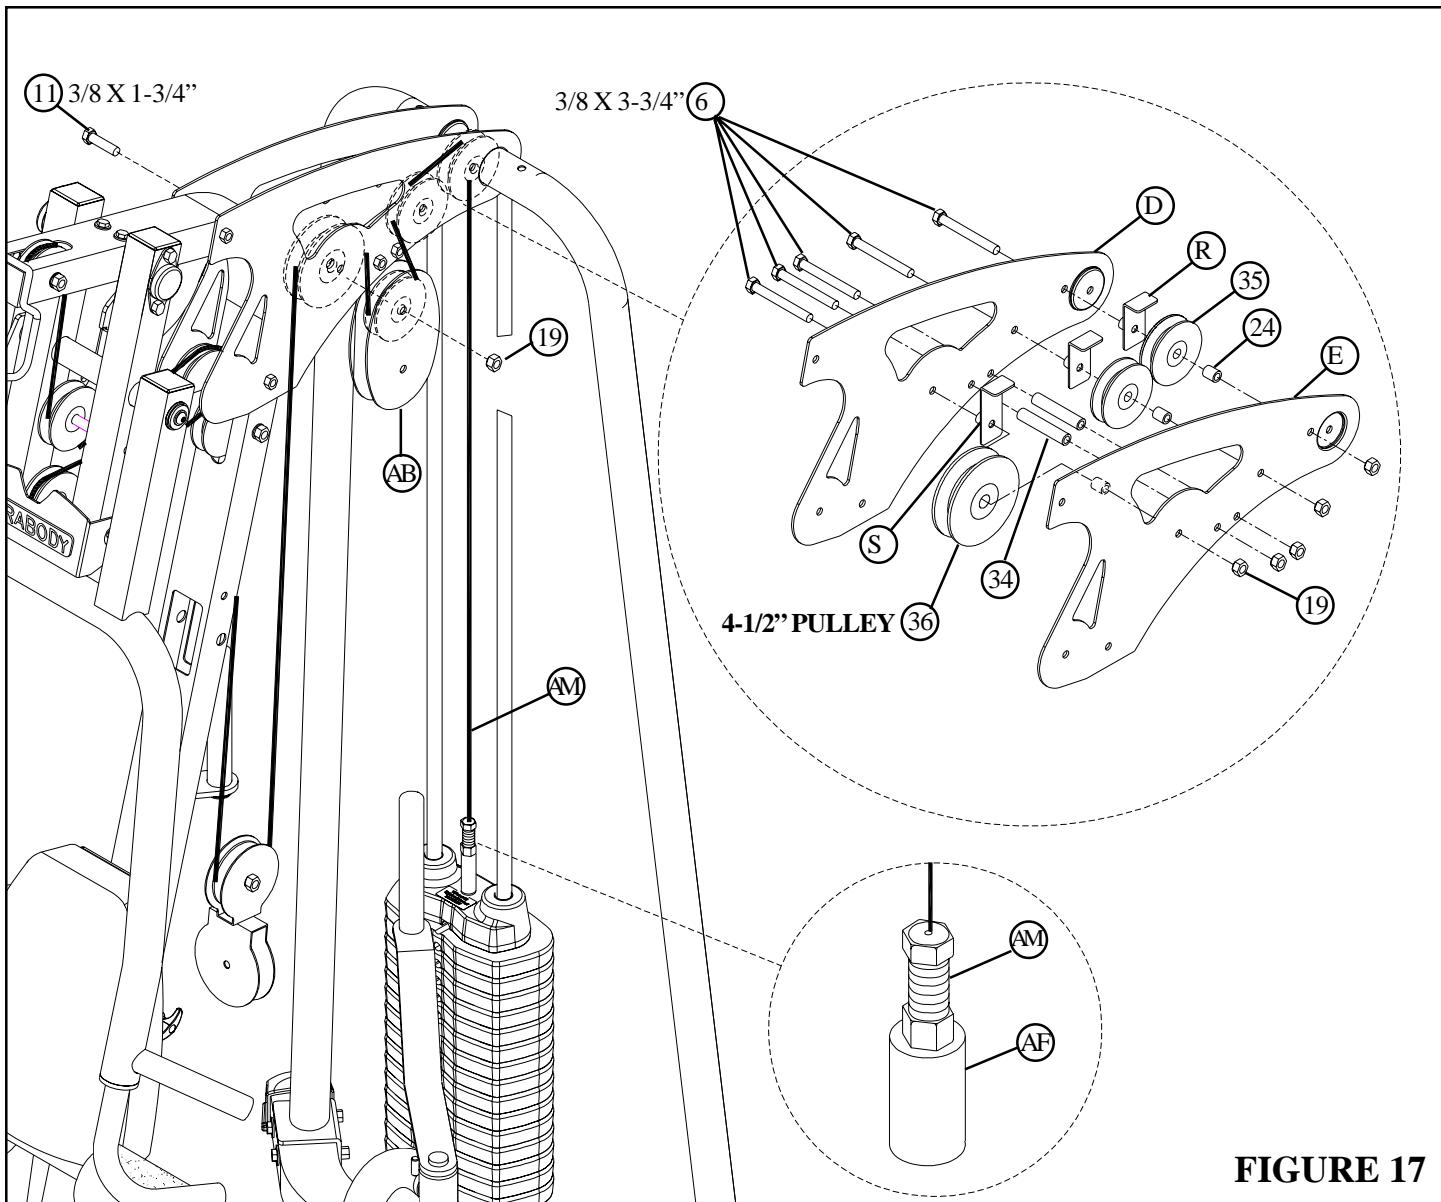

FIGURE 17
- Route the LAT CABLE (AM) around one **4-1/2" PULLEY** (36) and assemble the PULLEY to the LEFT (D) and RIGHT (E) BOOM PLATES using one 3/8 X 3-3/4" BOLT (6), one LONG "L" CABLE BRACE (S), one 15/16" SPACER (24) and one 3/8" LOCK NUT (19). See FIGURE 17.
- **SECURELY** assemble two PLASTIC SLEEVES (34) to the LEFT (D) and RIGHT (E) BOOM PLATES using two 3/8 X 3-3/4" BOLTS (6) and two 3/8" LOCK NUTS (19) as shown in FIGURE17.
- Route the LAT CABLE (AM) around one 3-1/2" PULLEY (35) and assemble two FLOATING PULLEY PLATES (AB) to the 3-1/2" PULLEY (35) using one 3/8 X 1-3/4" BOLT (11) and one 3/8" LOCK NUT (19). See FIGURE 17. **(NOTE: Make sure the cable runs in the grooves of the pulleys.)**
- Route the LAT CABLE (AM) over two 3-1/2" PULLEYS (35) and assemble the PULLEYS to the LEFT (D) and RIGHT (E) BOOM PLATES using two 3/8 X 3-3/4" BOLTS (6), two SHORT "L" CABLE BRACES (R), two 15/16" SPACERS (24) and two3/8" LOCK NUTS (19). See FIGURE 17.
- Screw the threaded end of the LAT CABLE (AM) into the end of the HEAD PLATE ASSEMBLY (AF) .See FIGURE 17.